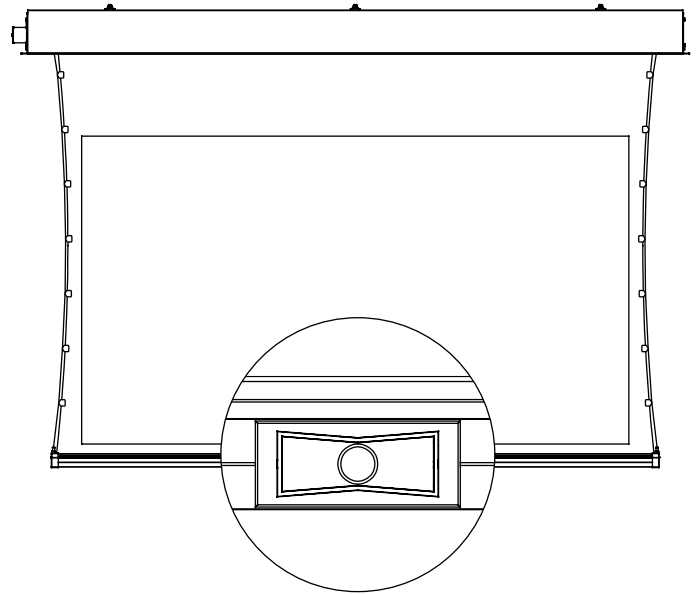

Figure 2
3. Lower the Tensioned Advantage (Featuring ViewShare Technology) screen and note the camera location in the center of the slat bar (Figure 2).